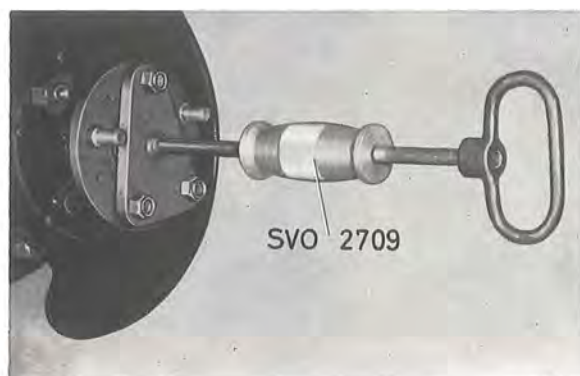

Fig. 4-131. Removing the drive shaft
3. Slacken the bolts for the thrust washer. These are slackened through the holes in the drive shaft flange. Pull out the drive shaft with puller SVO 2709, see Fig. 4-131.
2. Release the bolts for the brake backing plates and brake shoe retainers. They are slackened through the holes in the drive shaft flanges. Pull out the drive shafts with puller SVO 2709, see Fig. 4-131.